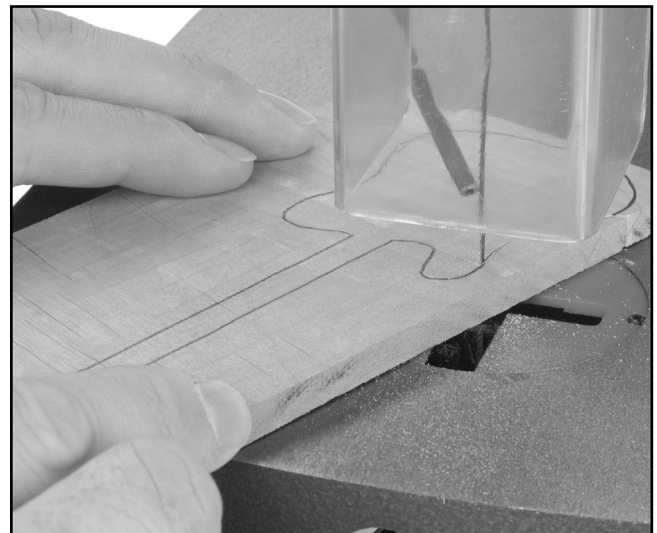

Figure 12. Making a curved cut.
4. Feed the workpiece into the blade with a slow and even pressure. Use your fingers to hold it down and use your thumbs to steer as shown in **Figure 12**.